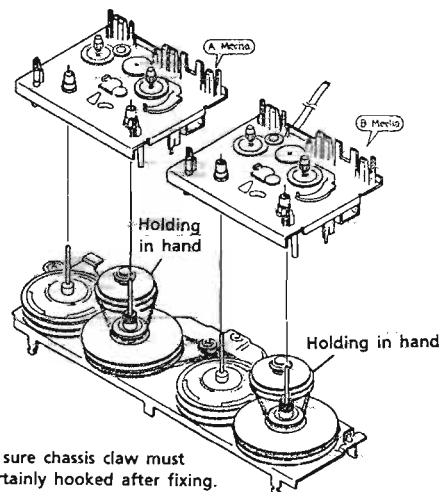

Fig. 3-14 Install the cassette mech. and bracket ass'y
2. Install the bracket ass'y on the cassette mech..( Fig.3-14 )